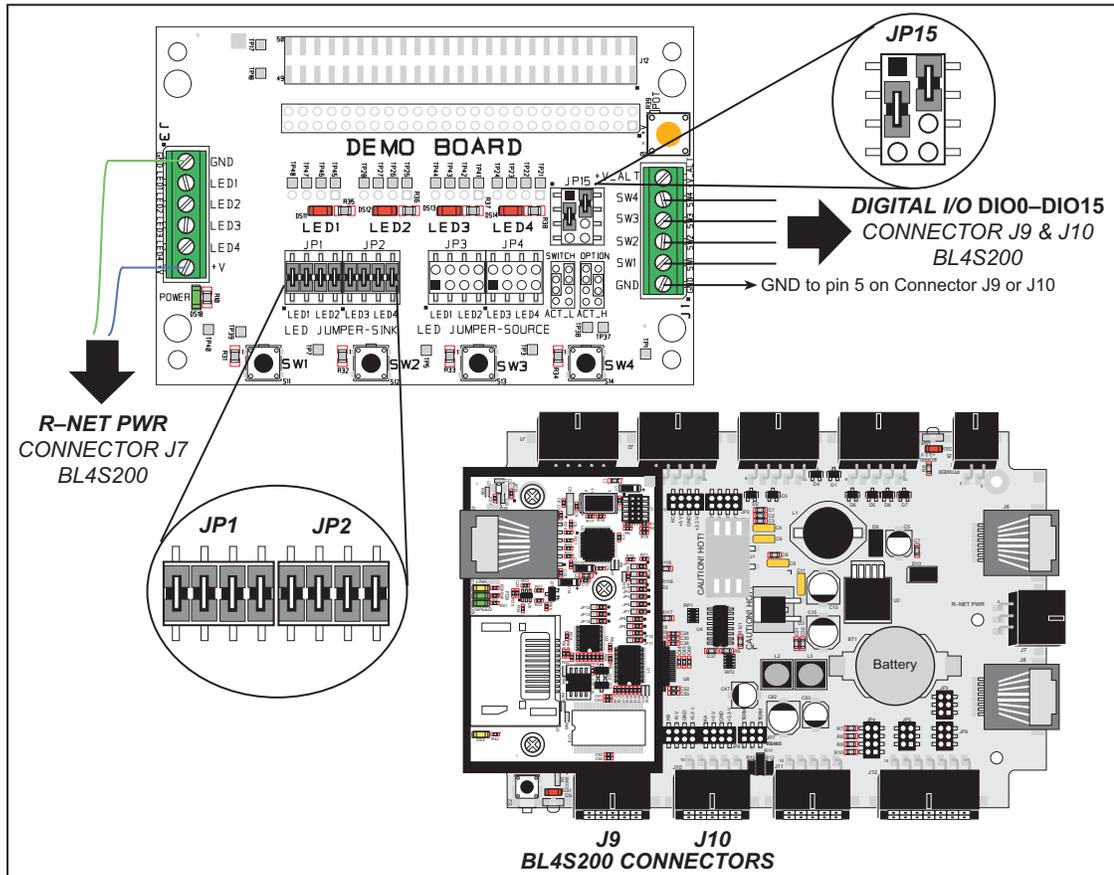

Figure 21. Digital Inputs Signal Connections
Figure 21 shows the signal connections for the sample programs that illustrate the use of the digital inputs.
- **INTERRUPTS.C**—Demonstrates the use of the Rabbit RIO interrupt service capabilities. Set up the Demonstration Board as shown in Figure 21 with DIO0 connected to SW1.